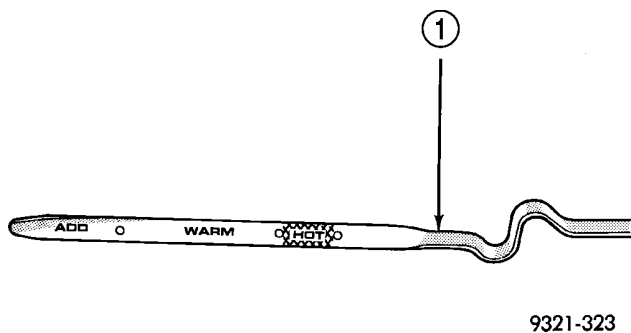

Fig. 11 Dipstick Markings
(6) Clean the oil pan and magnet. Reinstall pan using new Mopar Silicone Adhesive sealant. Tighten oil pan bolts to 19 N·m (165 in. lbs.).
(7) Pour four quarts of Mopar® ATF+3 (Automatic Transmission Fluid) Type 7176 through the dipstick opening.
(8) Start engine and allow to idle for at least one minute. Then, with parking and service brakes applied, move selector lever momentarily to each position, ending in the park or neutral position.
(9) Check the transaxle fluid level and add an appropriate amount to bring the transaxle fluid level to 3mm (1/8 in.) below the "ADD" mark on the dipstick (Fig. 11).